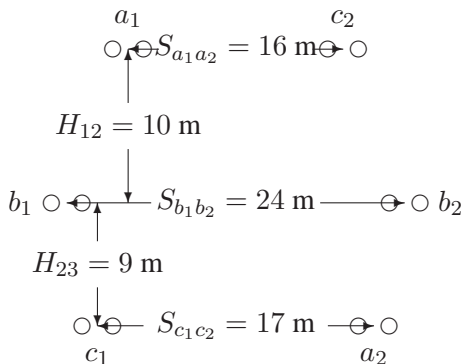

FIGURE 42
4.11. A double circuit three-phase transposed transmission line is composed of two ACSR 2,167,000 cmil, 72/7 Kiwi conductor per phase with vertical configuration as shown in Figure 42. The conductors have a diameter of 4.4069 cm and a *GMR* of 1.7374 cm. The bundle spacing is 45 cm. The circuit arrangement is $a_1b_1c_1, c_2b_2a_2$. Find the inductance and capacitance per phase per kilometer of the line. Find these values when the circuit arrangement is $a_1b_1c_1, a_2b_2c_2$. Use function **[GMD, GMRL, GMRC] = gmd**, (4.58) and (4.92) in *MATLAB* to verify your results. For the $a_1b_1c_1, c_2b_2a_2$ configuration, the following distances are computed in